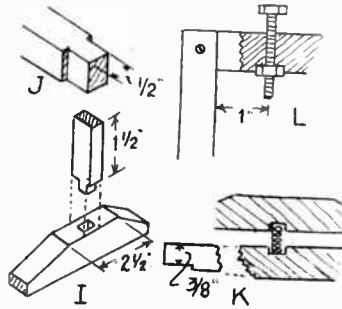

Fig. 2
two pieces of wood $\frac{3}{4}$ in. wide and $\frac{1}{2}$ in. thick to the length given at (I) in Fig. 2, plus the depth of the mortise. Glue these parts in the feet, then bevel the ends down, as shown in the diagram.
Before replacing the top crossbar, bore a hole $1\frac{1}{2}$ ins. from each end, for the adjusting screws to enter. These are a pair of $\frac{1}{2}$ in. by 2 in. or 3 in. steel bolts, with hexagon heads and nuts. In the underside, chisel out recesses for the nuts to enter about halfway, as at (L) Fig. 2. Now replace the bar, and turn the bolts until they press, not too heavily, on the rollers. A good idea is to bore a shallow recess in the top bar, at each of the places the bolts bear upon, to prevent any side shifting of the bar.